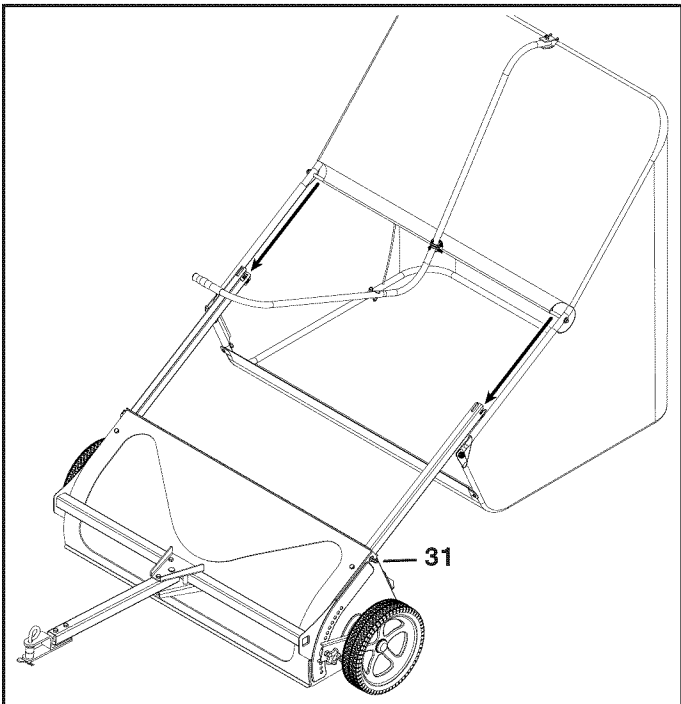

**FIGURE 17**
**STEP 17: (SEE FIGURE 17)**
- Slide the handle grip (29) onto the end of the handle tube (9).
- Assemble the handle tube (9) to the dump tube (5) and secure in place with a 1/4" x 1" curved head bolt (26) and 1/4" nylock nut (24).
- Snap the dump handle clip (33) onto the pivot rod.